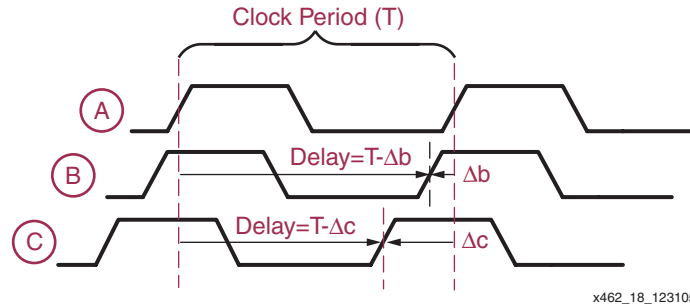

Figure 3-17: Delaying a Fixed Frequency Clock Appears to Predict the Future
Because it is impossible to insert a negative delay to counteract the clock skew, the DCM actually *delays* the output clocks enough so that they appear to be advanced in time. How is this accomplished? The clock cycle is repetitive and has a fixed period, T . As shown in Figure 3-17, the clock at Point (B) appears to be advanced in time by the delay Δb . In reality however, the clock is delayed by $(T - \Delta b)$. Similarly, the clock at Point (C) is delayed by $(T - \Delta c)$.